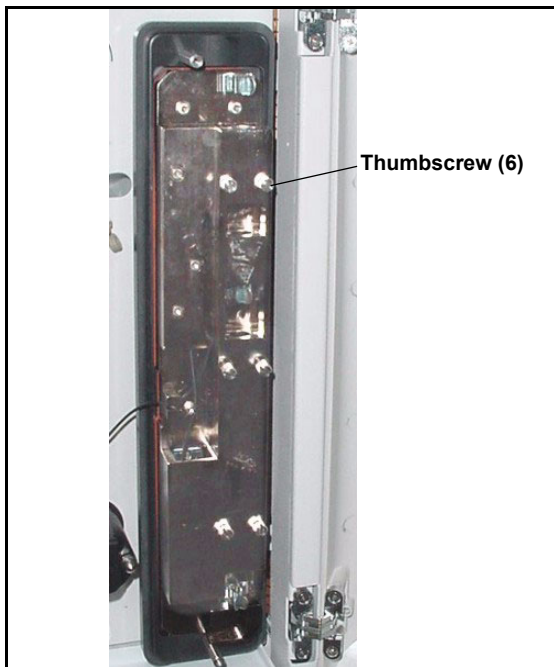

Figure 18. ICS-2000 Column Heater Cover Removed
4. Unscrew the six thumbscrews on the top metal plate (see Figure 18) and remove the plate.